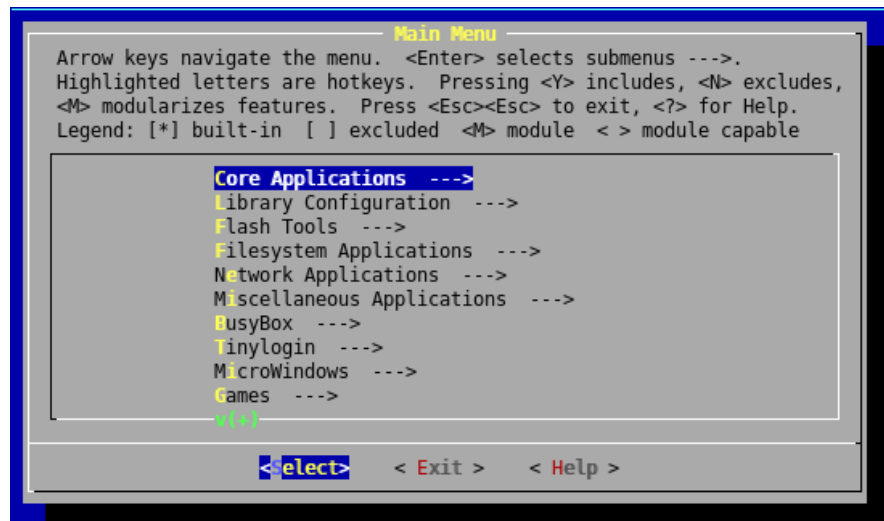

Figure 41 Main Menu for Vendor/User Settings
6. You will now start the Main Menu for the Vendor/User Settings configuration, see Figure 41.